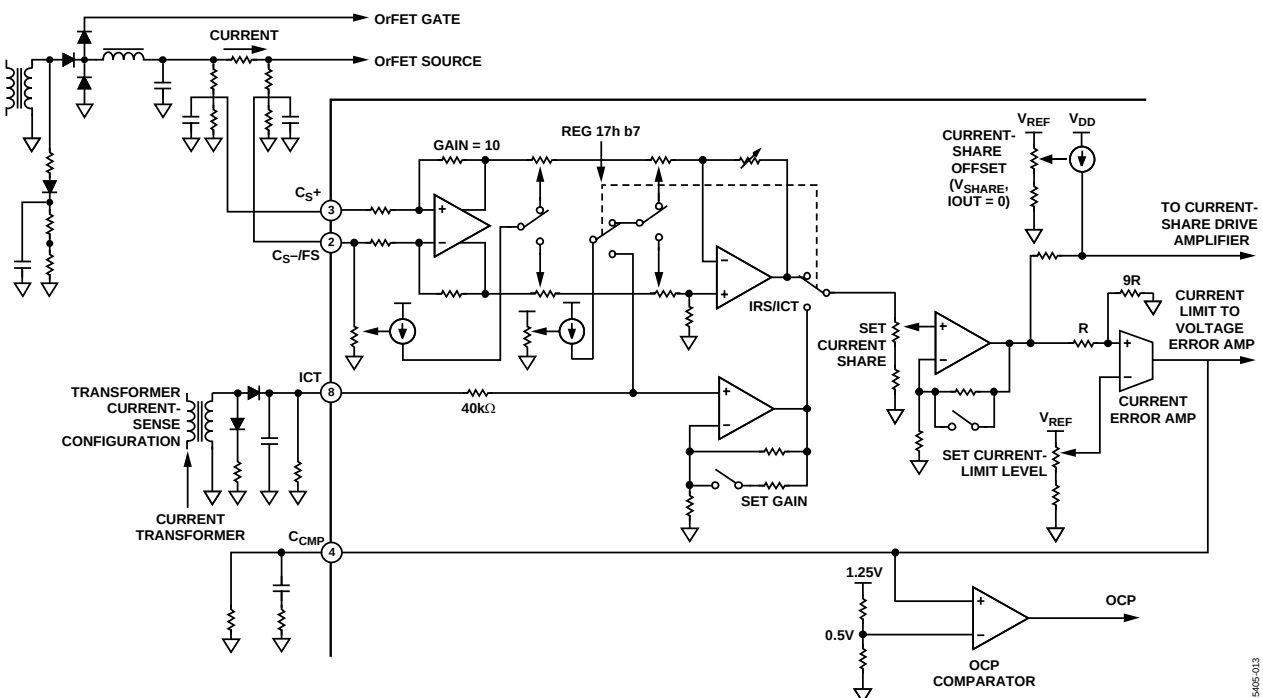

Figure 13. Current Sense
A 1.5 V reference is connected to the inverting input of the voltage error amplifier. This 1.5 V reference is the output voltage of the soft-start circuit. Under closed-loop conditions, the voltage at the noninverting input is also controlled to 1.5 V. During start-up, the output voltage should be ramped up in a linear fashion at a rate that is independent of the load current. This is achieved by digitally ramping up the reference voltage by using a counter and a DAC. The ramp rate is configurable via the SMBus. See Figure 13.
This is a two-stage differential amplifier that achieves low offset and accuracy. The amplifier has the option to be chopped to reduce offset or left as a linear amplifier without chopping. Refer to the Register Listing for more details. The amplifier's gain can be selected from three ranges. It is followed by a trim stage and then by a low gain buffer stage that can be configured with a gain of 1.0 or 2.1. The result is a total of six overlapping gain ranges (65 to 230), one of which must be selected via the SMBus. This gives ample adjustment to compensate for the poor initial tolerance of the resistance wires typically used for current sensing. It also allows selecting a higher sensitivity for better efficiency or a lower sensitivity for better accuracy (lower offset). The amplifier offset voltage is trimmed to zero in a once-off operation via the SMBus and uses a voltage-controlled current source at the output of the first gain stage. A second controlled current source is used to trim out the additional offset due to the mismatch of the external divider resistors. This offset trim is dynamically adjusted according to the common-mode voltage present at the top of the voltage dividers. Six ranges are selectable according to the magnitude and polarity of this offset component. Because the offset compensation circuit itself has some inaccuracies, the best overall current-sense accuracy is obtained by using more closely matched external dividers and then selecting a low compensation range. See Figure 13.
Current is typically sensed by a low value resistor in series with the positive output of the power supply, positioned just before the OrFET or diode. For high voltages (12 V and higher), this resistor is usually placed in the negative load. A pair of closely matched voltage dividers connected to Pins 2 and 3 divide the common-mode voltage down to approximately 2.0 V. The divider ratio must be the same as used in the local and remote voltage-sense circuits. Alternatively, current may be sensed by a current transformer (CT) connected to Pin 8. The ADM1041A must be configured via the SMBus to select one or the other. See Figure 13.
required. It is possible to fine trim this current via Register 15h, Bits 4–0, step size 170 nA. For example, 2.5 μ A $\approx$ 15 $\times$ 170 nA; so the code for Register 15h is decimal 15 or 0Fh. Refer to the Current Transformer parameter in the Specifications table for more details. See Figure 13.
This is a low gain transconductance amplifier that takes its input from one of the calibrated current stages described previously. The amplifier requires only the output pin for loop compensation, which typically consists of a series RC network-to-common. A trimmable reference provides a wide range of adjustment for the current limit. When the current signal reaches the reference voltage, the output of the error amplifier comes out of saturation and begins to drive a controlled current source. The control threshold is nominally 1.0 V. This current flows through a resistor in series with the trimmed voltage loop signal and thereby attempts to increase the voltage signal above the 1.5 V reference for that loop. The closed voltage loop reacts by reducing the power supply's output voltage and this results in constant current operation. See Figure 13.